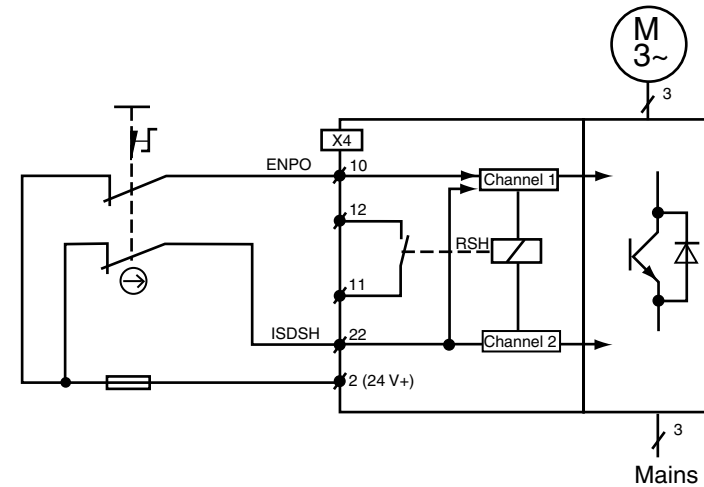

Figure 6.4 "STO" selection of function via switch with two NC contacts (positively operated)
- There is no protection against unexpected restarting after re-establishing the electrical power supply in the illustrated example circuit, unless an external circuit is used (figure 6.4) If ENPO and ISDSH are High when reconnecting the power supply (see table 6.4), the axle may start up if autostart is programmed. The connected safety circuit on the machine must ensure that the ServoOne junior (the SRP/CS) can attain and maintain the safe state of the machine.